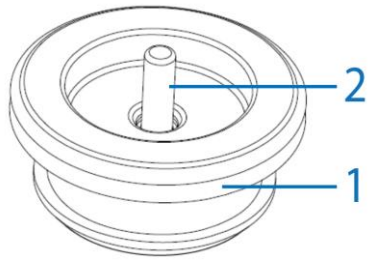

Figure 6
1. Remove the plug from the grommet (1) (Figure 6) by pulling the stub (2) (Figure 6) to create a hole in the grommet.